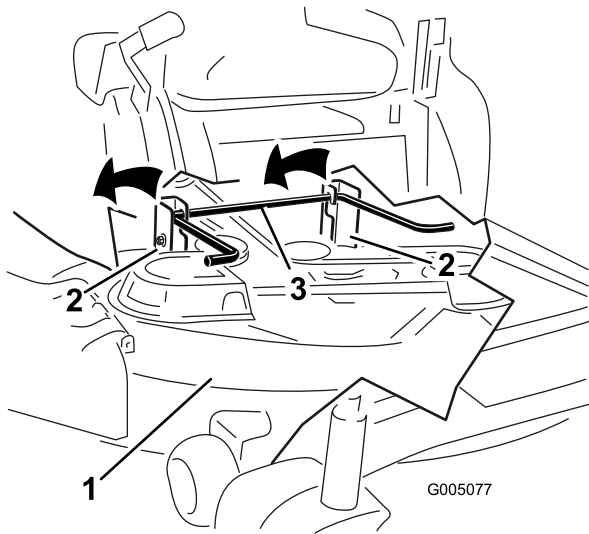

Figure 61
6. Lift the mower deck and hanger brackets clear of the rear lift rod and lower the mower carefully to the ground (Figure 61).